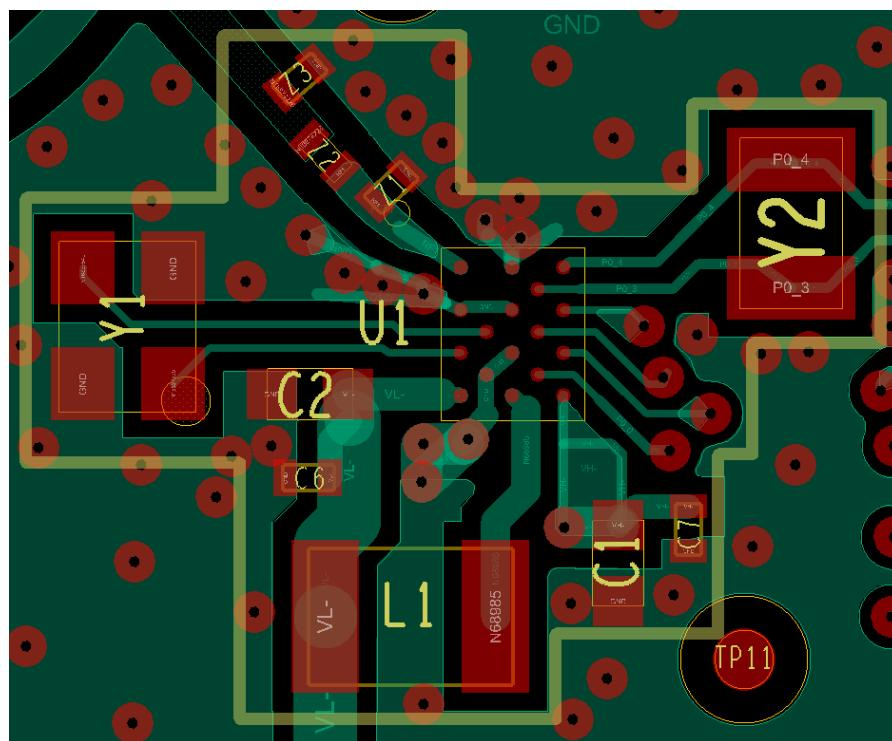

Figure 37: WLCSP17 - PCB Placement and Routing – Top Layer
- Connect pin A3 to GND with a via as shown in Figure 37
- Short C1, C3, and E3 pins together and use two or more GND vias, as shown in Figure 37
RF strip: calculate and route a 50 Ohm RF stripline between the DA14531 RFIOp pin and the antenna. A low-pass filter that consists of three components (Z1, Z2, Z3) must be put as close as possible to the chip. Both capacitors must be grounded on the same side of the RF stripline (RFIOM). See Figure 37.